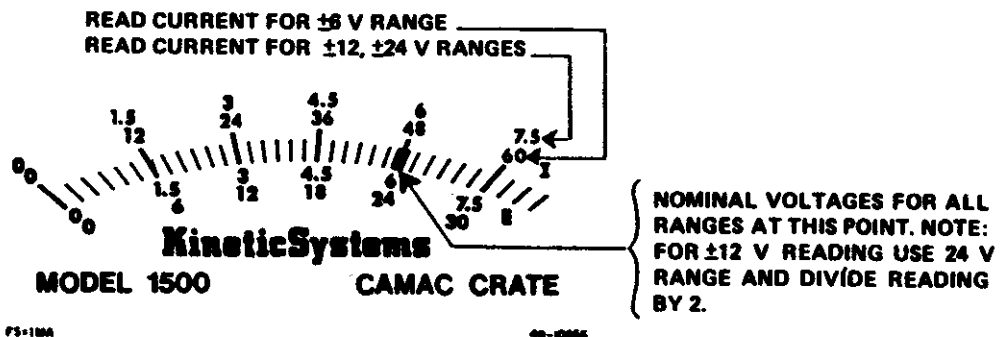

Figure 5 - Front Panel Meter Face
3. Press the 24, 12, and 6 switch IN, one at a time. Read the positive voltages on their respective ranges (see figure 5).
5. Press the 24, 12, and 6 switches IN, one at a time. Read the negative voltages on their respective ranges (see figure 5).